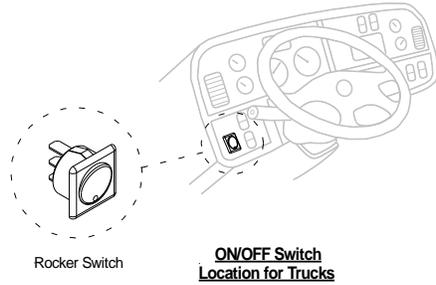

Fig. 2
1. Turn Power Switch On (If applicable): To activate power to the liftgate, turn the cab shutoff switch, **Fig.2.**